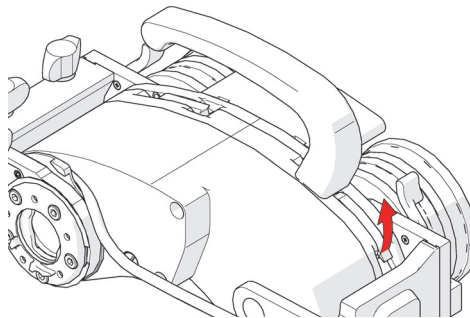

Figure 2-17 Lift the handle lock latch
1. Lift the handle lock latch (see Figure 2-17 on page 60).